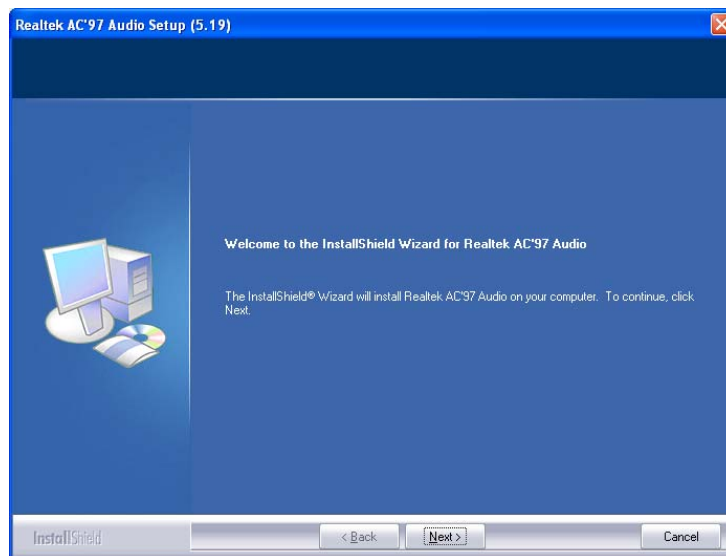

Figure 7-16: AC'97 Driver Installation Welcome Screen
Step 5: The AC'97 Driver Installation screen in **Figure 7-16** appears.